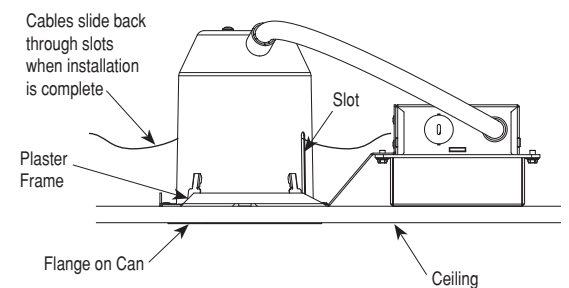

Fig. 4
5. When the housing flange is seated tightly against the ceiling, remove sticker from joined cables. Unhook, and tuck excess into slots from which they originated as shown in figure 4.